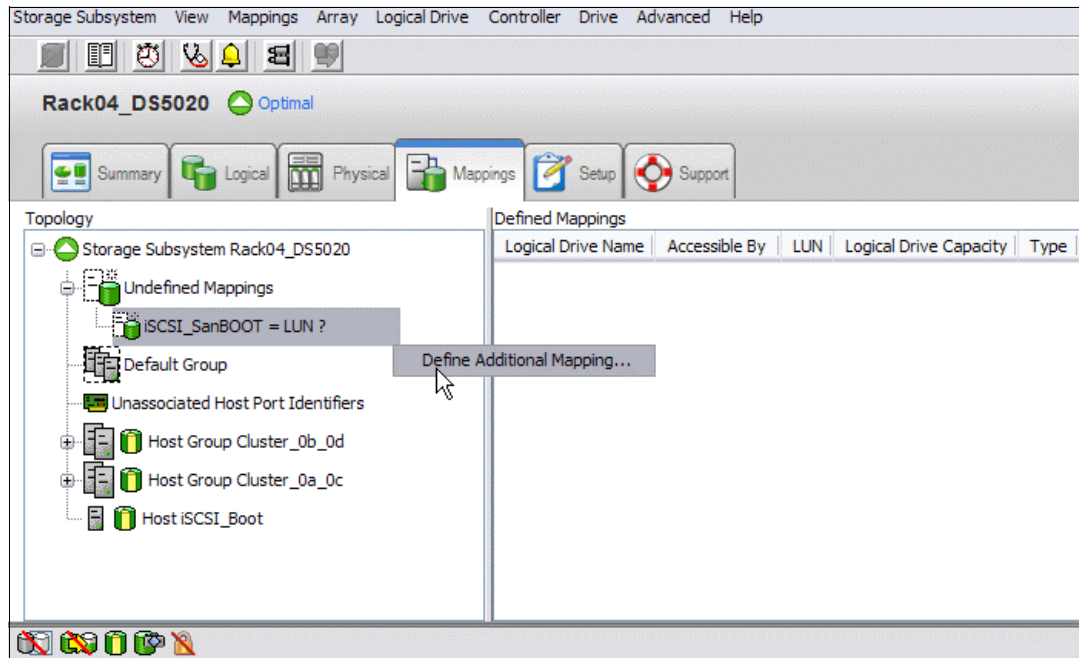

Figure 6-32 Define Mappings
- a. In the Storage Manager Subsystem Management window, go to the **Mappings** tab. Under Undefined Mappings, you can find the newly created LUN. Right-click it to **Define Additional Mapping...**, as shown in Figure 6-32.